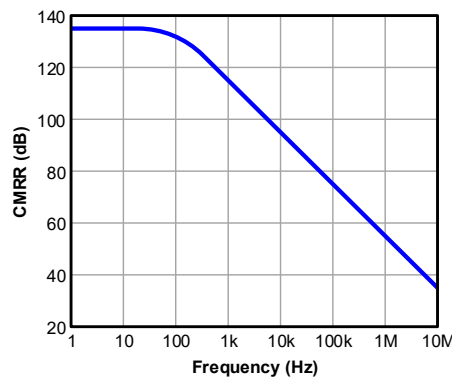

Figure 20. CMMR over Frequency
1.  $\Delta V_{CM}/CMRR$  is frequency dependent because CMRR is frequency dependent. At low frequencies, CMRR can reach high values in the range of 80 to 140dB, depending on the type of op-amp. At high frequencies, CMRR rolls off at a rate of 20db/decade (see Figure 20).